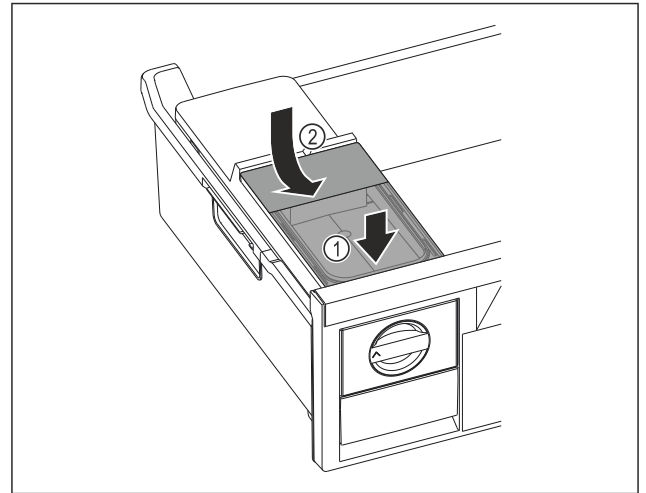

Fig. 72
- ▶ Position the water tank at the front. Fig. 72 (1)
- ▶ Lower the water tank at the rear. Fig. 72 (2)